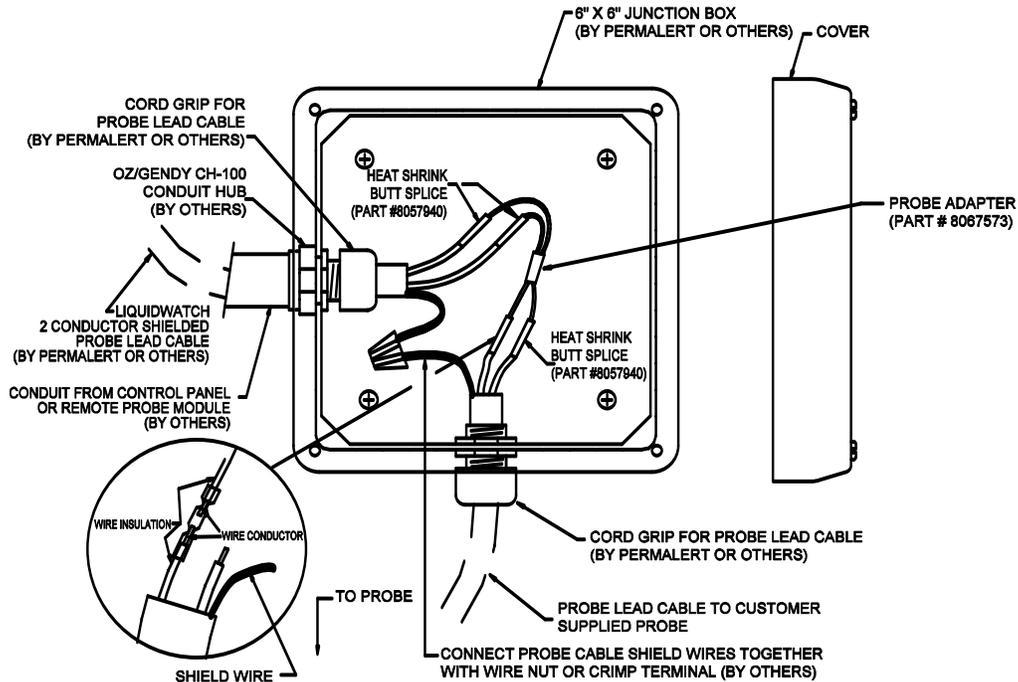

Figure 7
1. Each PermAlert supplied probe is furnished with an integral probe adapter. Probe adapters are also available to connect customer supplied probes to the LiquidWatch monitoring system. A standard 6" x 6" x 4" junction box can house several probe adapters or several standard probe splices (see Figures 7 and 8). (PermAlert can supply NEMA 4X junction boxes and cord grips.)
4. Once the probe is installed, the probe lead should be routed to the junction box or the remote probe module. Trim the excess length of the probe lead before splicing it. Splice the leads by using the crimp connectors supplied with the probe or probe adapter. Make sure the shrink tubing on the connector covers the insulation of the wires, so no bare copper wire is exposed. Heat the splice with a heat gun to seal the adhesive-lined shrink tubing on the connector (see Figures 7 and 8).